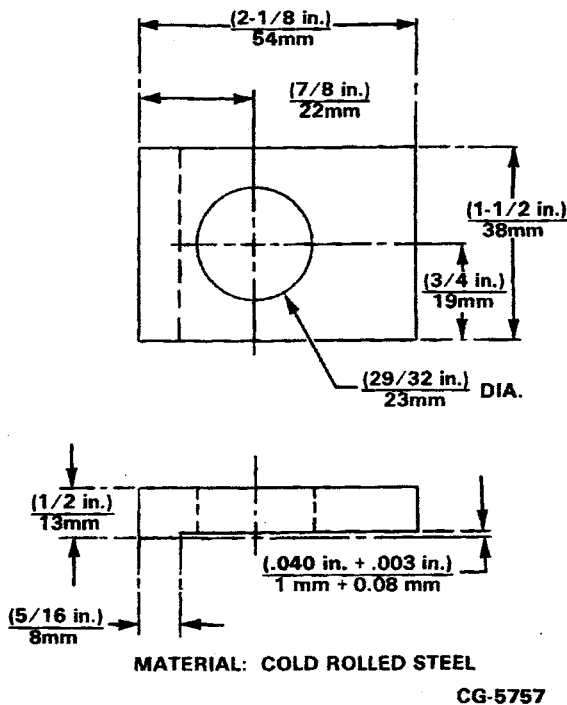

Figure 6.47. Cylinder Sleeve Holding Adapter Specifications
- b. Place each sleeve in the crankcase without O-rings. Clamp the sleeve down using three holding adapters (made locally). Refer to Figure 6.47.